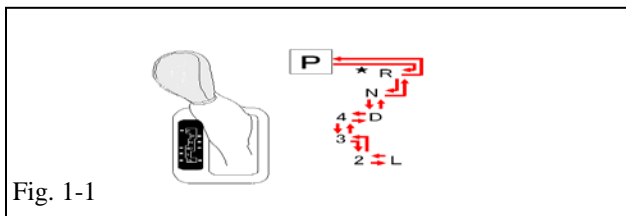

Fig. 1-1
- Put automatic transmission in "P". (Fig. 1-1)